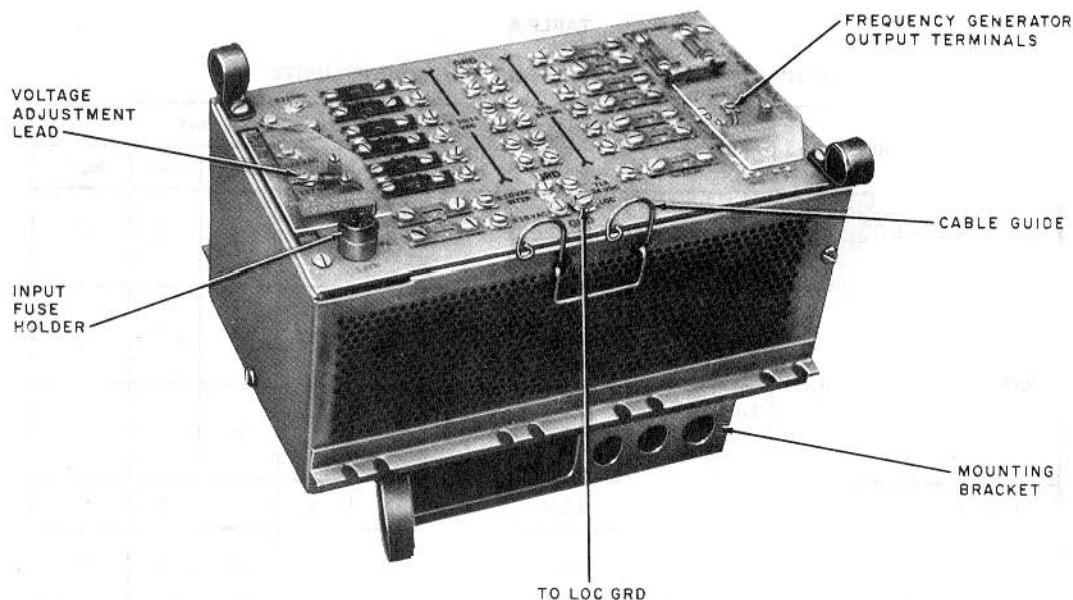

Fig. 3—30C1 Power Unit (Rack Mounted) Cover Installed
**3.03** Mount the 30C1 power unit (Fig. 3) on the equipment frame using the four mounting